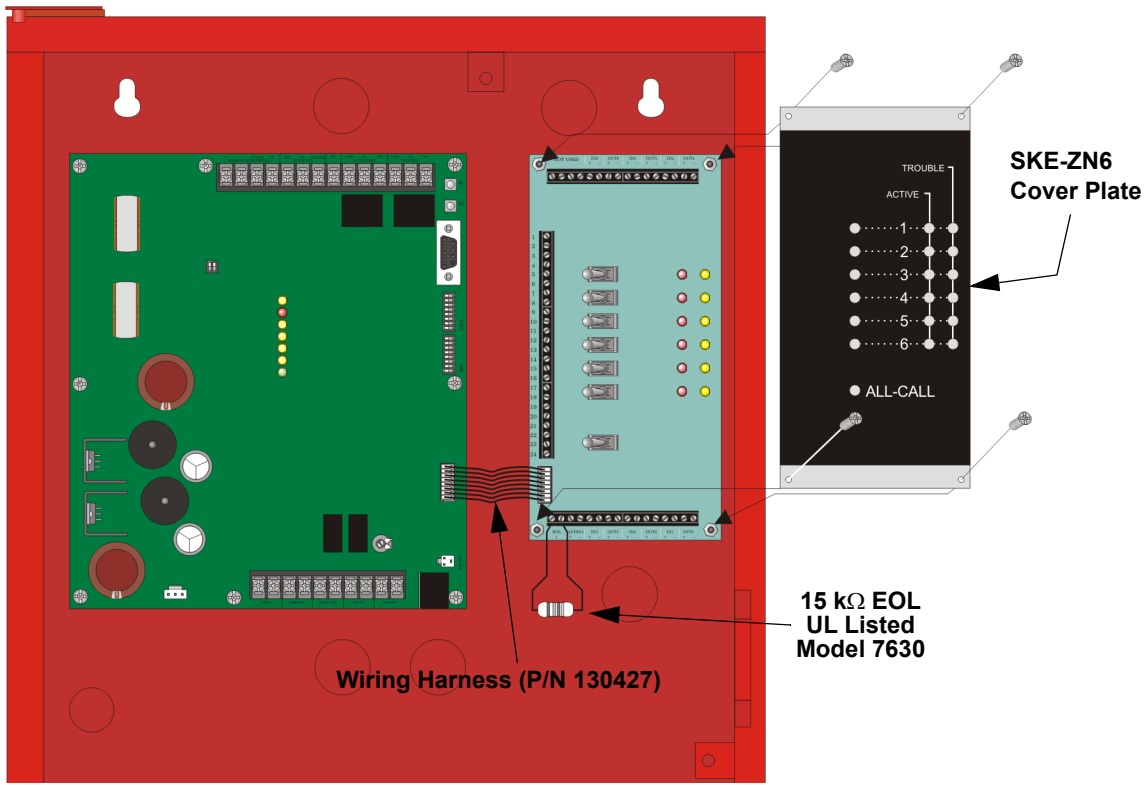

Figure 6-4 View With SKE-ZN6 Installed
6. Connect wiring harness to the expansion connector on the SKE450 and to the direct connect pins on the SKE-ZN6. See Figure 6-4.
8. Attach the SKE-ZN6 cover plate to the SKE-ZN6. See Figure 6-4.
In order to gain access to the terminals on the SKE-ZN6, the cover plate must be removed. See Figure 6-4.